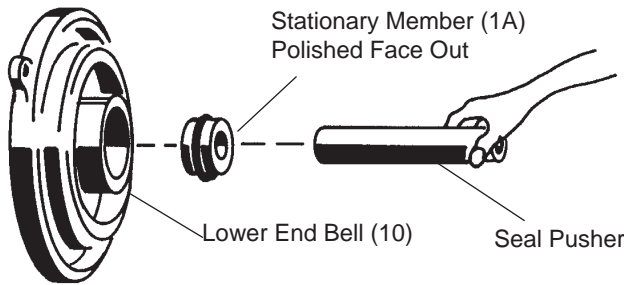

FIGURE 4
Seal - Clean and oil seal cavity in lower end bell (10). Press stationary member (1a) firmly into lower end bell (10), using a seal pusher (see parts list - seal tool kit), nothing but the seal pusher is to come in contact with seal face (see Figure 4). Make sure the stationary member is in straight.